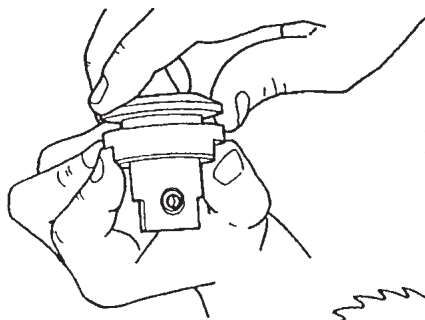

Figure B-59a
- a. Remove the arbor nut by turning it clockwise, as seen in Figure B-59a. Hold the arbor with the threaded part pointing to the left.